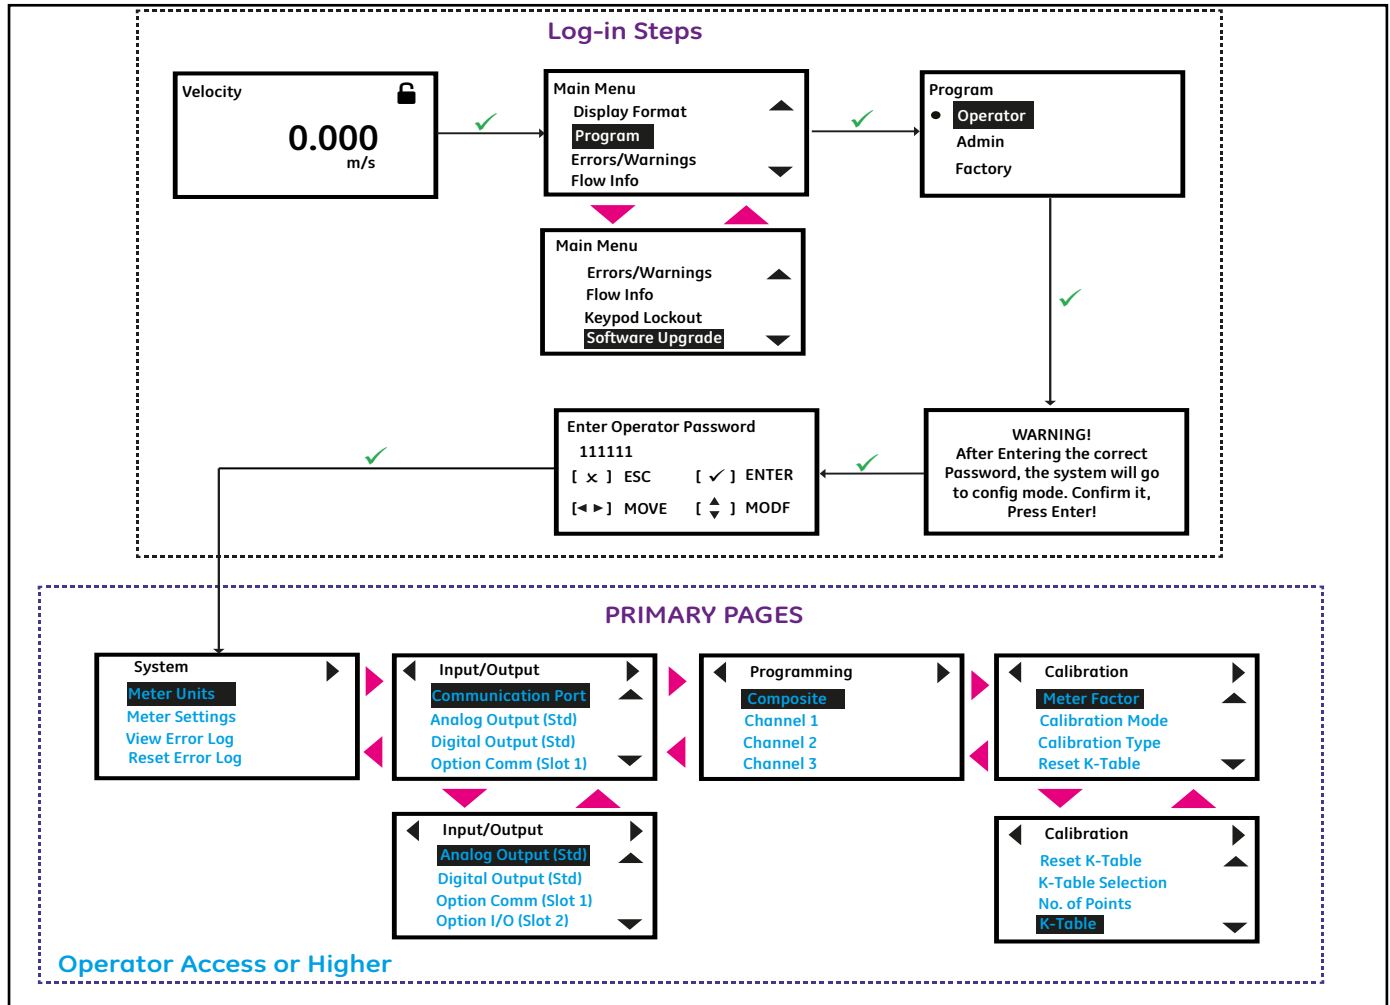

Figure 38: Log-in Steps and Primary pages
5. After completing the log-in steps you will see the primary pages as shown in the *Figure 38*. To move from one page to the next, press [◀] or [▶] and to scroll to options within a page press [▲] and [▼].